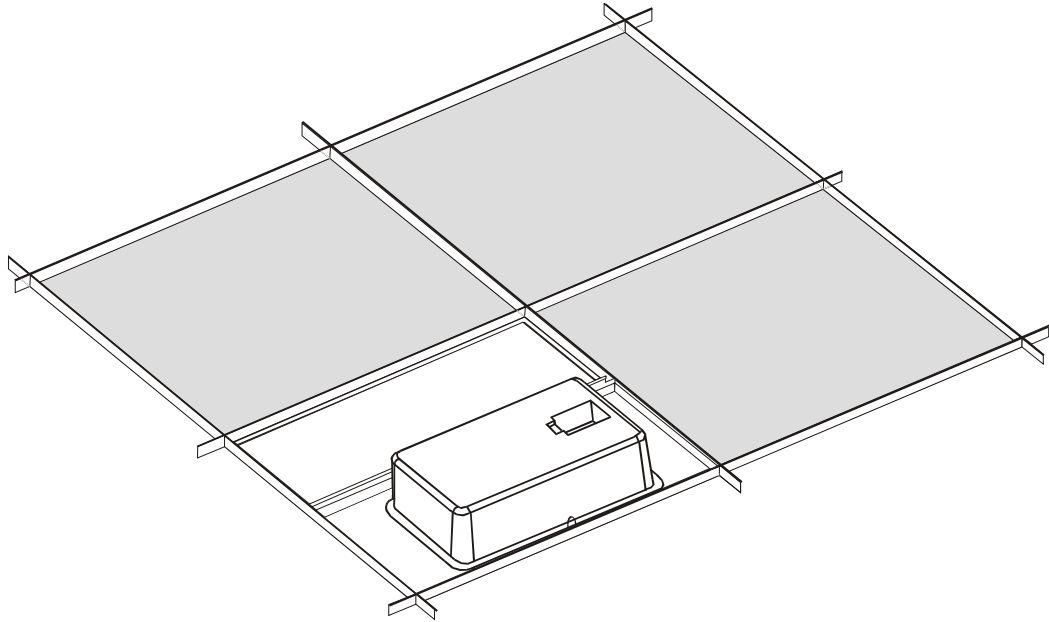

Figure 10: Fitting the Half-Tile Size Speaker
4. Drop the half-tile size speaker in the appropriate opening, so it is supported by the ceiling rails and the ceiling mounting bracket (see Figure 10). No screws are needed.